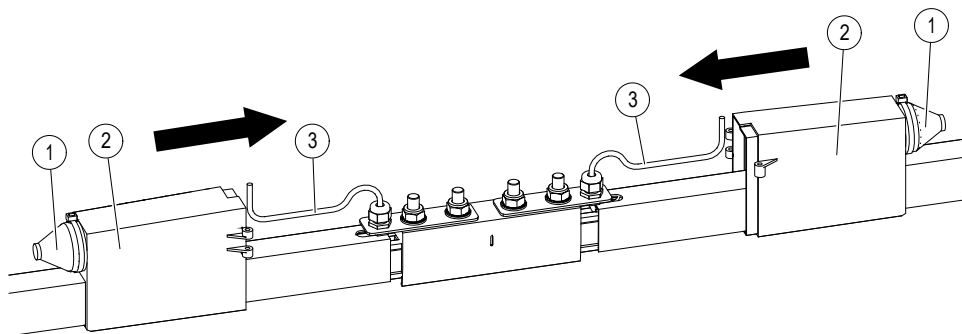
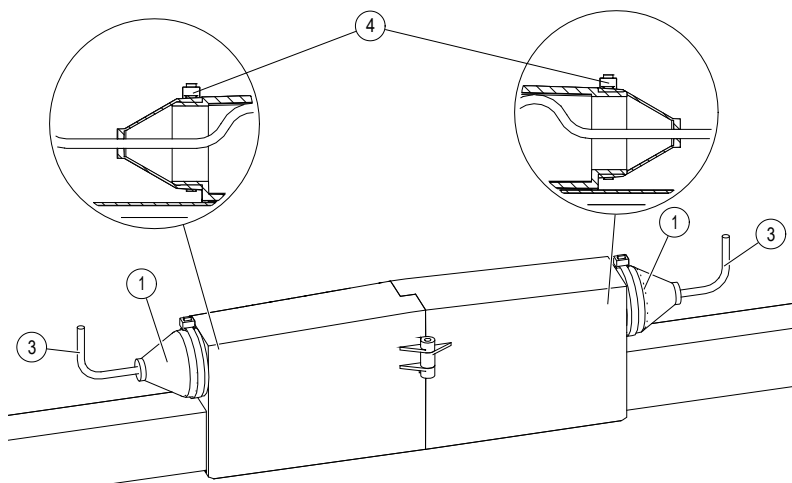

Fig. 46: Slide the cap halves (2) together
Fig. 47: Pull the cold connection cable (3) through the grommet (1)
→ Slice the grommets (1) for the cold connection cables (3) (see Fig. 46).
→ Slide the cap halves (2) together and pull the cold connection cables (3) through the grommets (1) (see Fig. 46 and Fig. 47) and fix it with the cable ties (4).